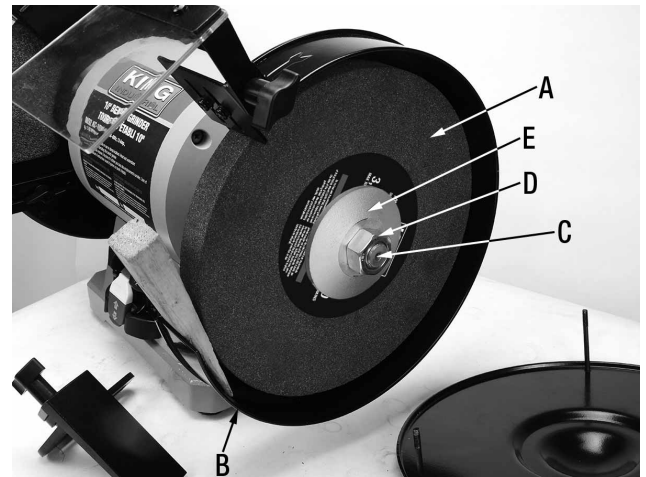

FIGURE 10
2. Use a piece of wood to wedge the grinding wheel (A) Fig.10 against the grinding wheel guard (B) to prevent the shaft (C) from rotating. Remove the arbor hex. nut (D) using a 29 mm wrench.